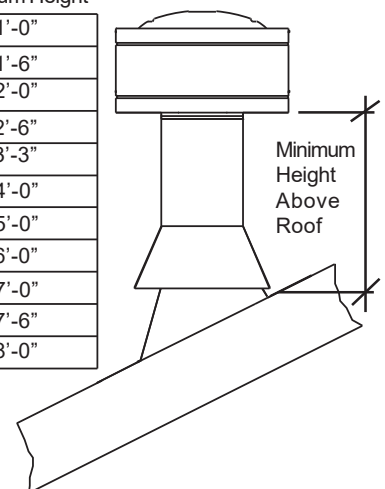

FIG. 14
11) Add lengths of pipe and firestop as necessary until assembly extends to a point above the roof which complies with local code requirements for minimum termination height and with the appliance manufacturer's installation instructions. See FIG. 14.